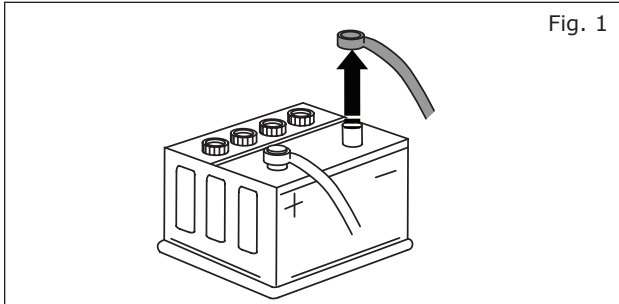

Fig. 1
- 7) Using a 10mm socket and ratchet, disconnect the negative battery terminal. (Fig. 1)